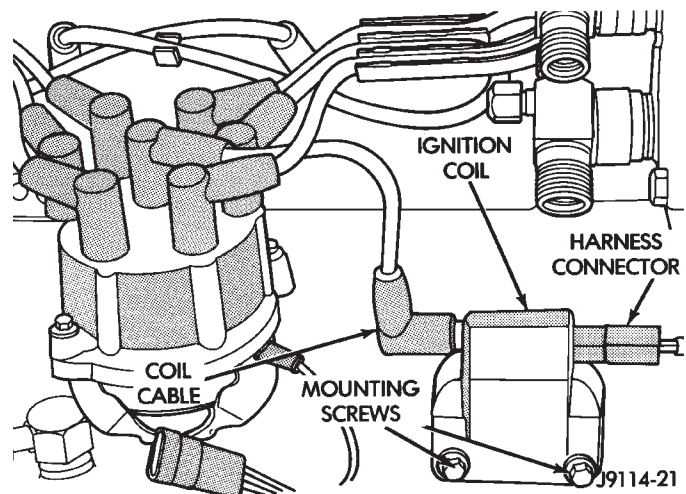

Fig. 14 Coil Harness Connector—Typical (4.0L Shown)
(1) Unplug the ignition coil harness connector at the coil (Fig. 14).